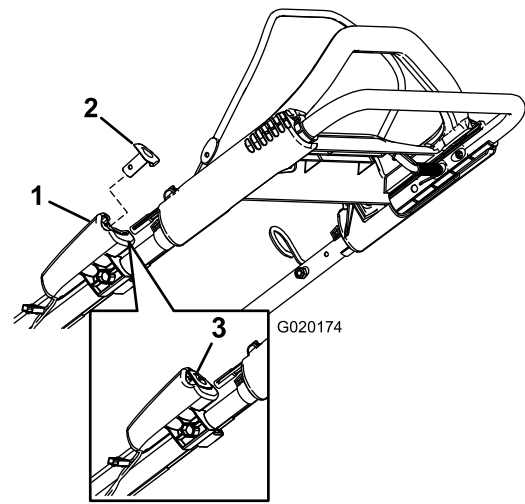

Figure 19
2. Push the electric-start button until the engine starts (Figure 19).
Note: If the electric-start button has been removed, insert it in the electric starter; refer to Figure 19.